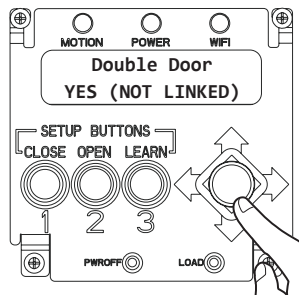

Figure 14
- The screen will display “YES (NOT LINKED)” until properly set up. (Figure 14)